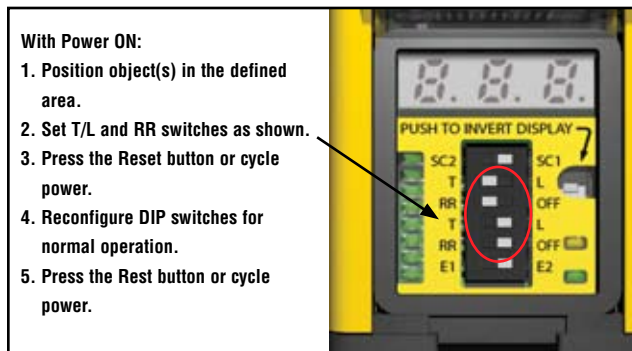

Figure 3-14. DIP switch configuration to program fixed blanking
- From normal operation or a power OFF condition, move the second and third DIP switches (the first RR and T/L) both to the left (T and RR position). See Figure 3-14.